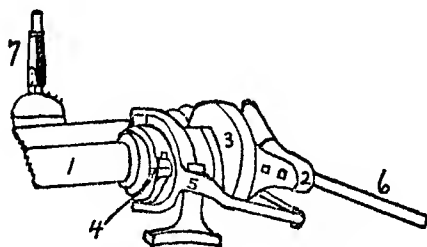

FIG. 85.—ARNOLD REVERSE.
**The Arnold Reverse Gear.**—The Arnold is a single eccentric reverse of simple construction having few wearing parts. The parts of this reverse are shown in Fig. 85, in which 1 is the main shaft of the engine; 2 the eccentric and strap; 3 the eccentric housing; 4 the shifting collar; 5 the shifting fork; 6 the eccentric rod, and 7 the reverse